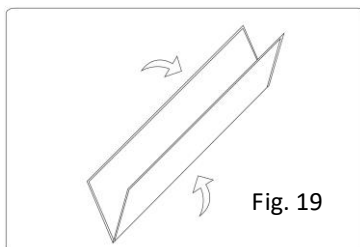

Fig. 19
5. Loosen and remove the ropes, **knob screws (E)** and **eyebolts (F)** from each leg.
6. Remove the frame **legs (B)** from the **folding frame (A)**.
7. Detach the **screen material (D)** from the **folding frame (A)** by carefully unsnapping each button as shown.
8. Fold **screen material (D)** in half, folding the bottom of the screen towards the top. Then, fold in half again in the same way. Lastly, fold the material into thirds to condense the length, see Fig. 19 – 21.